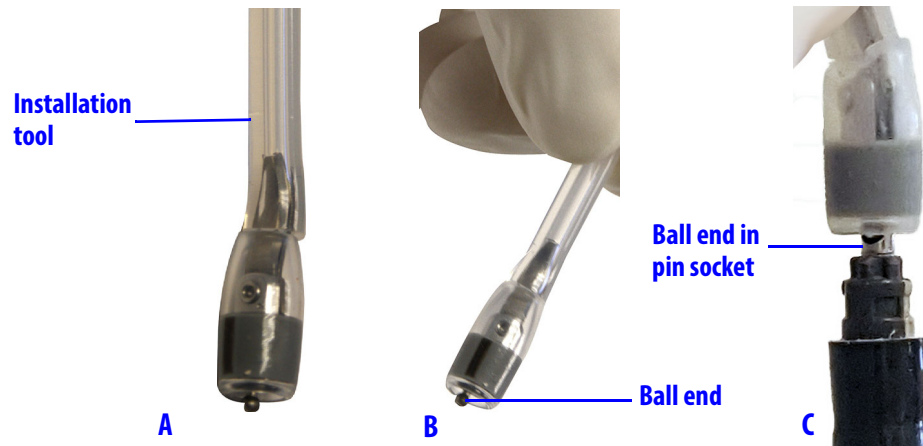

Figure 5.5 Grasp installation tool (B) and insert ball end of MCS Tip into pin socket (C)
3. Grasp the MCS Tip installation tool and insert the ball end of the MCS Tip into the pin socket (Figure 5.5 B and C).